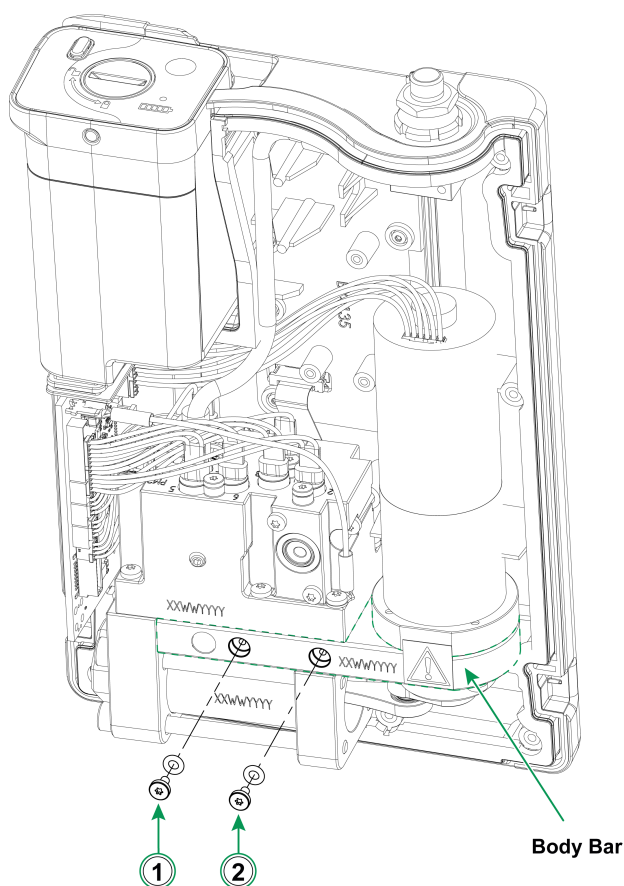

Figure 37: Removing plugs from the Body Bar
2. Remove the left plug (1) from the Body Bar (see 1 in Figure 37: Removing plugs from the Body Bar).
9. Remove the right plug (2) from the Body Bar (2 in Figure 37: Removing plugs from the Body Bar) and repeat the steps 3 - 8 of this instruction.